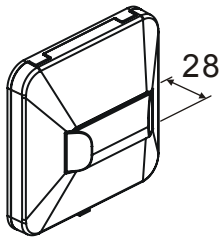

Fig. 4
- FDAI92 (Fig. 4) for surface mounting